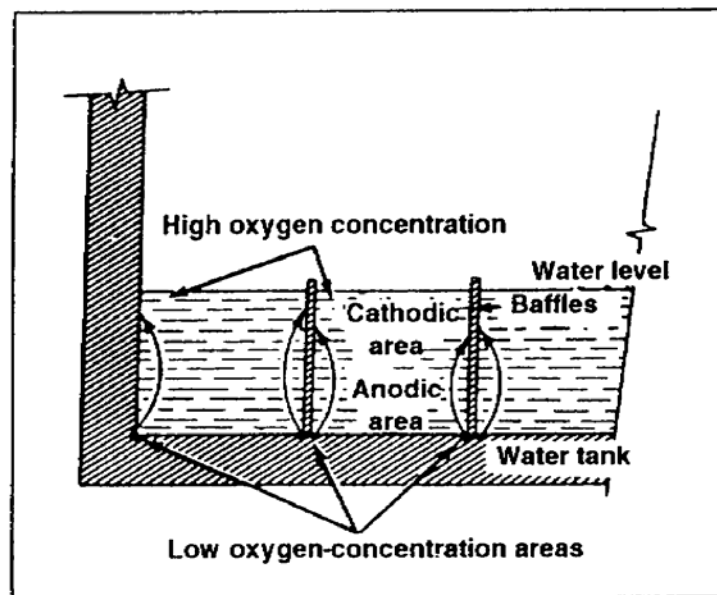

Figure 5-8. Low oxygen-concentration areas
(1) Metal-ion concentration cell corrosion consists of different concentrations of metallic ions in various water parts. High metal-ion concentrations will exist under the surfaces where the water is stagnant, whereas low metal-ion concentrations will exist adjacent to the crevice that is created by the raised surfaces. An electrical-potential will exist between the high- and low-concentration points. The area that has the high metal-ion concentration will be anodic and will corrode. For example, when a large object (such as a pipeline) passes through different soil environments, major corrosion cells are established and will extend over several miles. This condition results in several amperes of current flowing in the pipeline metal. Corrosion of the pipeline will occur wherever the current leaves the pipe's surface.
(2) Oxygen concentration cell corrosion occurs when a solution contains varying amounts of dissolved oxygen cells. Oxygen develops--
- In low oxygen-concentration areas (anode)(Figure 5-8).